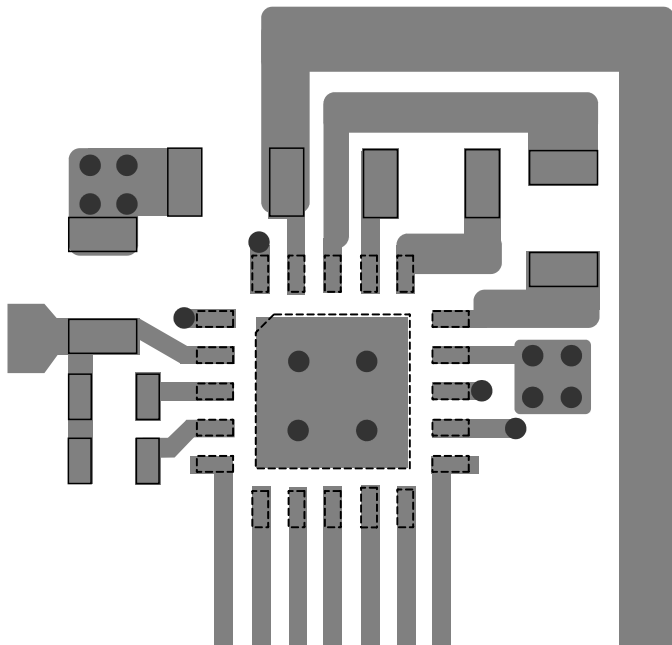

Figure 3 — Layer 1
- Figure 3 shows the pads on layer 1 that should be connected with vias to layer 2.  $C_{IN}$ ,  $C_{OUT}$  and the GND pin all use vias to connect to the ground plane.